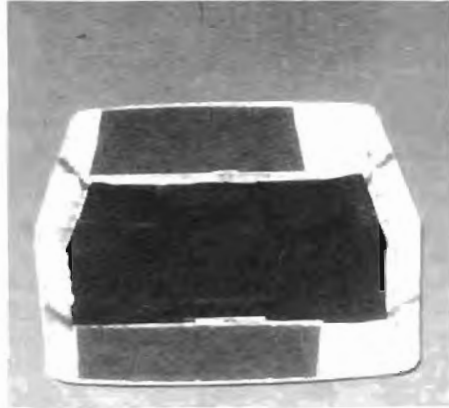

Figure 15
15. Place the two non-allergic natural fiber filters in the return openings of the ceiling shroud, as shown in Figure 15, with the net backing of the filters in the downward position.